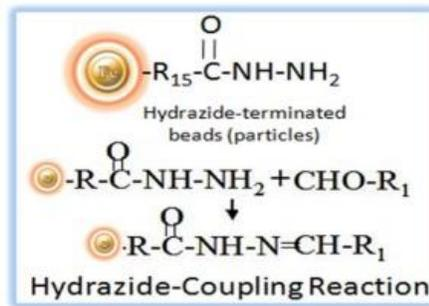

Fig.1 Hydrazide coupling reaction.
**BcMag™ Hydrazide-Terminated Magnetic Beads** are uniform magnetic beads grafted with a high density of hydrazide functional groups on the surface. Hydrazide chemistry is effective for labeling, immobilizing, or conjugating glycoproteins via glycosylation sites, which are frequently (as with most polyclonal antibodies) positioned in domains distant from the critical binding sites whose function needs to be preserved. Coupling antibodies in this manner selectively targets heavy chains in the Fc portion of the molecule, assisting in the best possible preservation of antigen binding activity by the ends of the Fv regions. At pH 5 to 7, hydrazide-terminated supports and compounds will conjugate with carbonyls of oxidized carbohydrates (sugars), resulting in the production of hydrazone linkages (Fig.1). The hydrazide beads are suitable for conjugating larger glycoproteins and glycolipids, carbohydrates, or other ligands. Moreover, the hydrophilic surface ensures low nonspecific adsorption, excellent dispersion, and easy handling in various buffers.